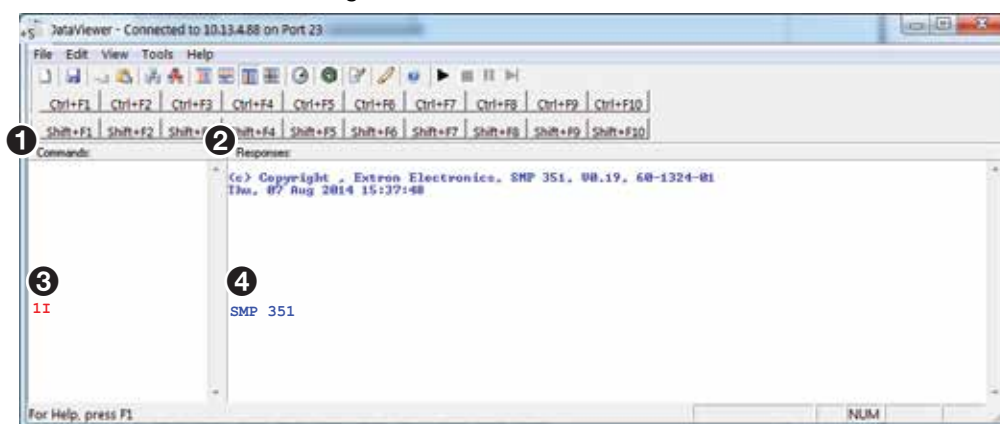

Figure 96. Enter Commands and View Responses
6. Use the **Commands** field to enter SIS commands (see figure 96, ③). View the responses in the **Responses** field (see figure 96, ④).
For example, enter **1I**, the command to display the model name, in the **Commands:** field (see figure 96, ③). The **Responses:** field (see figure 96, ④) returns the model number of the connected device.